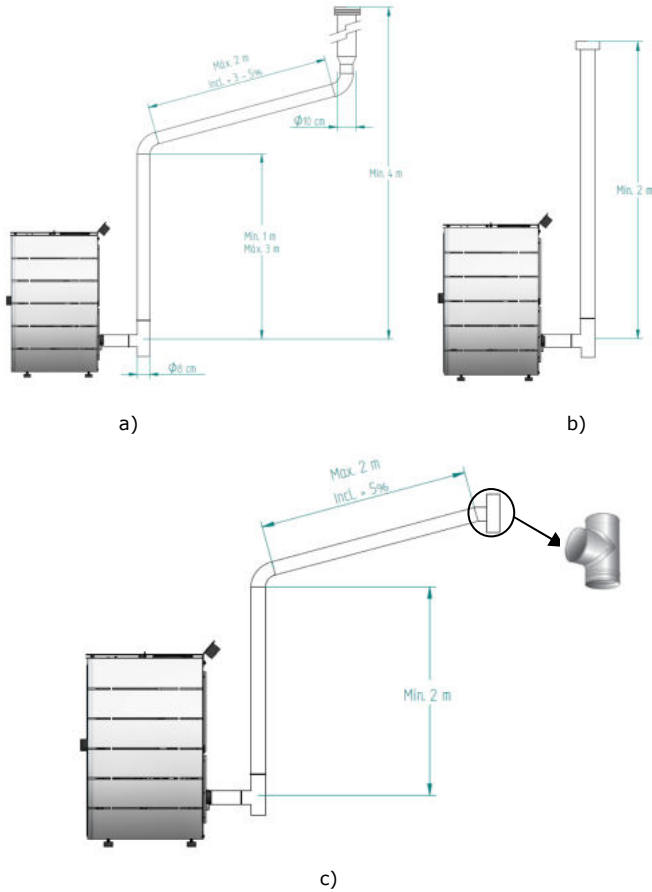

Figure 6 - Examples of standard installations
- As illustrated in figure 6, the exhaust path must have inspection slots along the duct to facilitate the performance of periodic cleaning and maintenance operations.
A T-tube must be installed at the base of the pipe to allow periodic inspections and annual maintenance, as illustrated in Figure 6.
Figure 6 illustrates the basic requirements for installing the flue onto the unit.